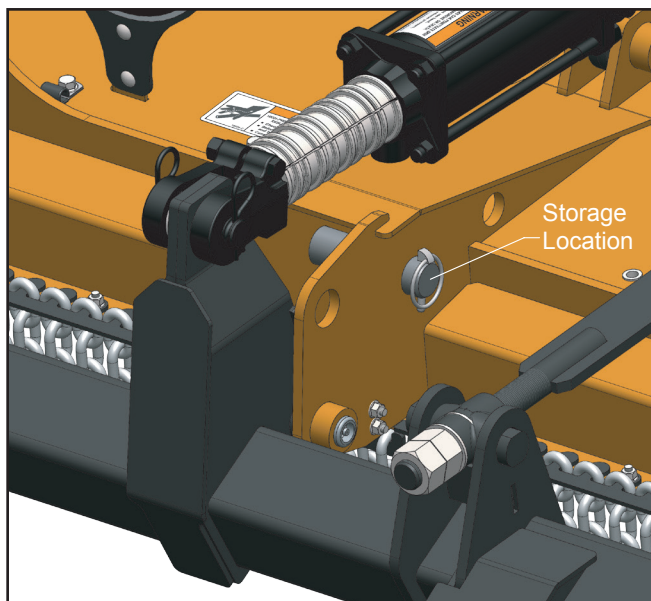

Figure 4. Transport Lock Pin In Operation Position
4. To lower cutter for operation, extend hydraulic cylinder to raise cutter. Move lock pin from lock position to storage position (Figure 4).